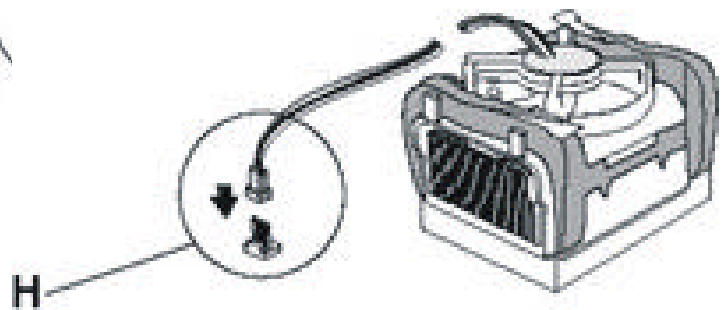

Figure 3-10: Installing the Fan Heatsink (7)
6. Lastly, connect the processor fan cable to the motherboard fan power header (Figure 3-10). Consult the motherboard manual to determine the correct fan header to use